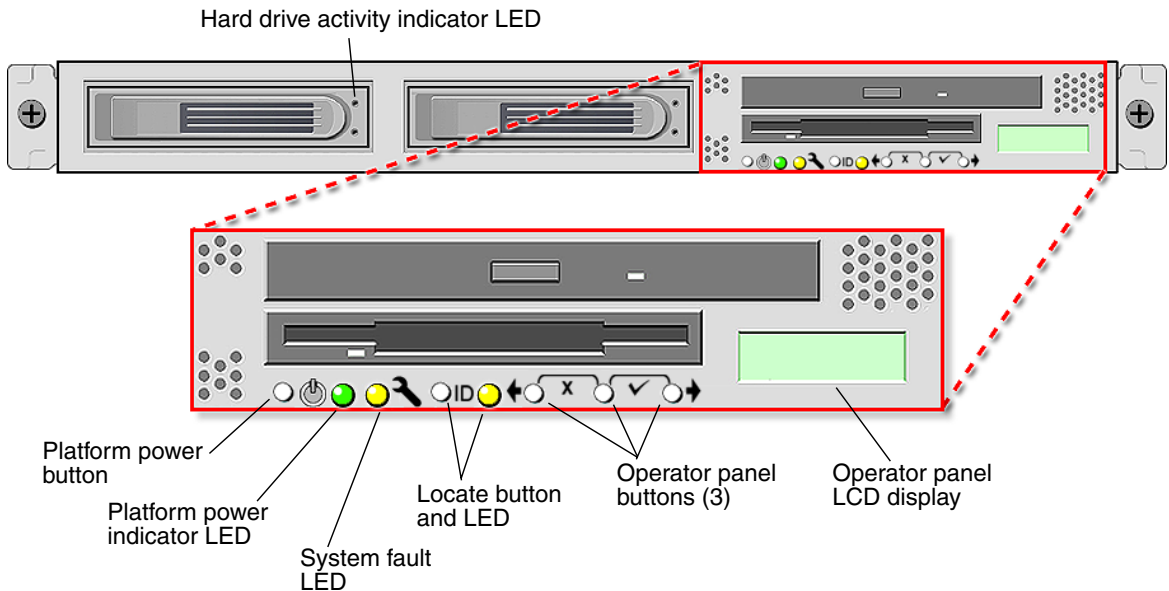

FIGURE 1-16 Sun Fire V20z Server Front Panel
- b. Push and release the platform power button on the server front panel (see FIGURE 1-16).